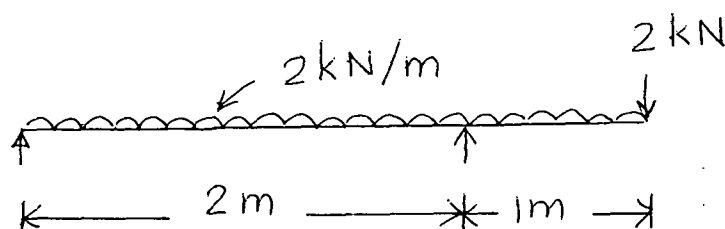

Fig 13.a.
13. a) Draw S.F.D, B.M.D and locate the point of contraflexure for the beam given in Fig. 13 (a).